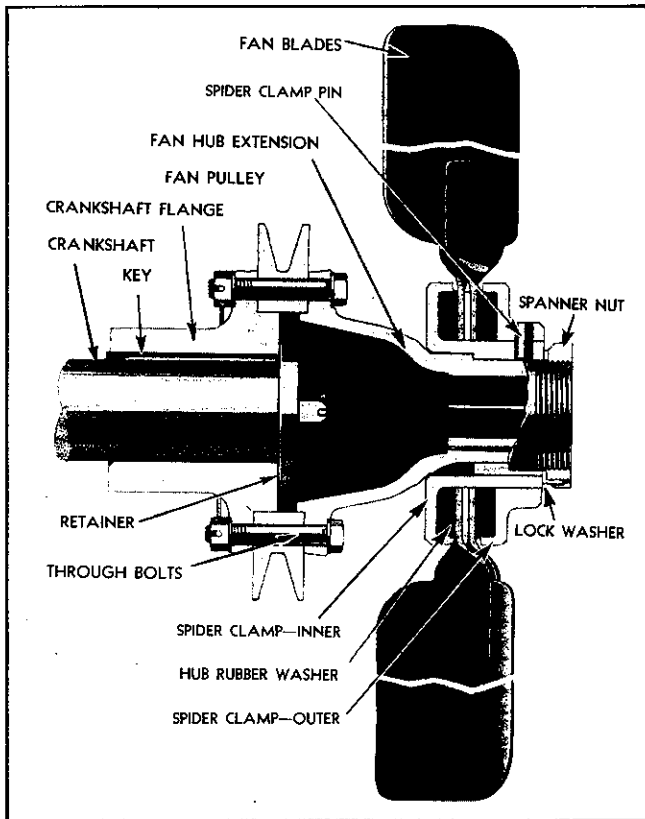

Fig. 13—Fan and Hub Assembly—Industrial.
**Install Radiator to Engine Base**—A somewhat different procedure is followed on the three and four cylinder engines than on the six cylinder engine when installing the radiator to the engine base. When making this installation on a six cylinder engine, with the fan shroud in place, the fan and hub extension assembly, see Fig. 13, must be removed from the crankshaft flange and slid inside the radiator shroud. The radiator on the six cylinder engine cannot be set with the cooling fan in place, because the fan blades will interfere with the fan shroud. When setting the radiator on the three and four cylinder engines, the fan hub extension, including the blades, may be attached to the crankshaft driving flange, providing the radiator shroud is removed from the assembly and slid over the fan blades before setting radiator in place.
The fan for industrial applications, shown in Fig. 13, is mounted to a fan hub. This hub is bolted to a flange which in turn is keyed on the front end of the crankshaft. The driving inner diameter of the fan blades proper is retained between two rubber washers, one on either side of the fan blades. Each of these rubber washers is in turn bonded to a metal clamp, one of
flange, the blades should be assembled to the hub and hub extension in the manner shown in Fig. 13.